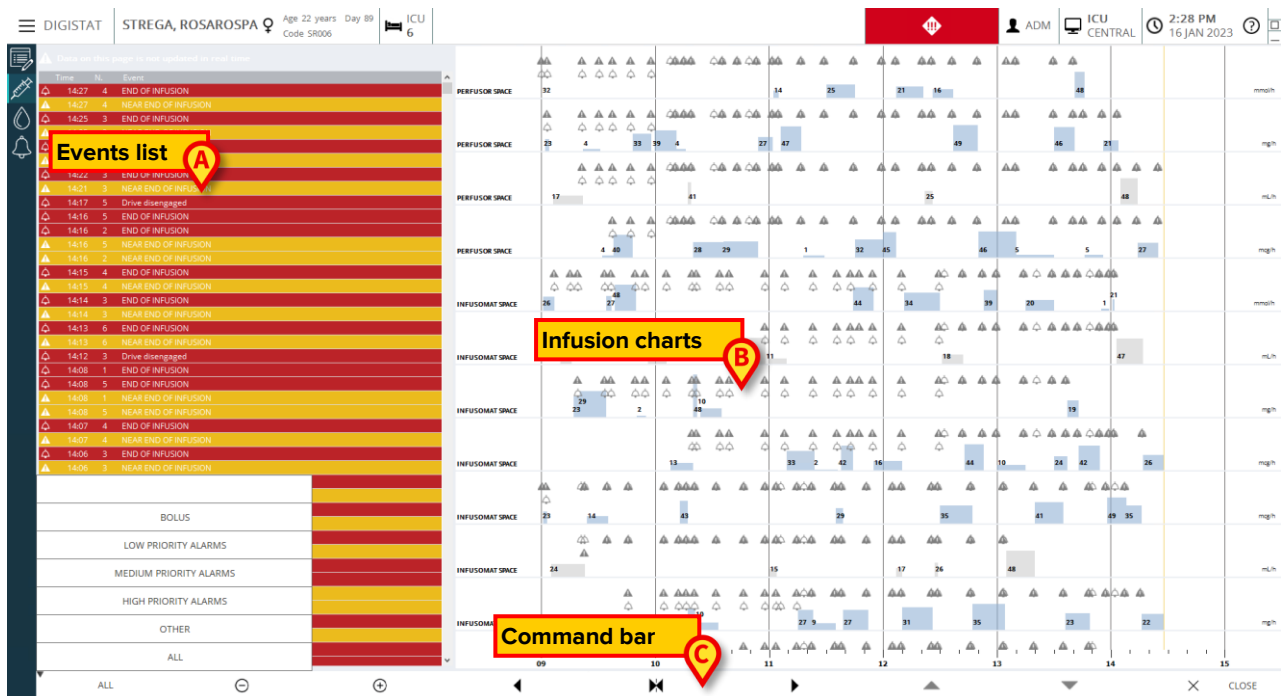

Fig 15
- a list of all the events occurred on all the pumps connected to the selected patient during his stay (Fig 15 **A** – see page 14);
- a chart representing all the patient’s infusions (Fig 15 **B** – see page 16);
- a command bar making it possible to manage the chart display mode (Fig 15 **C** – see page 15).